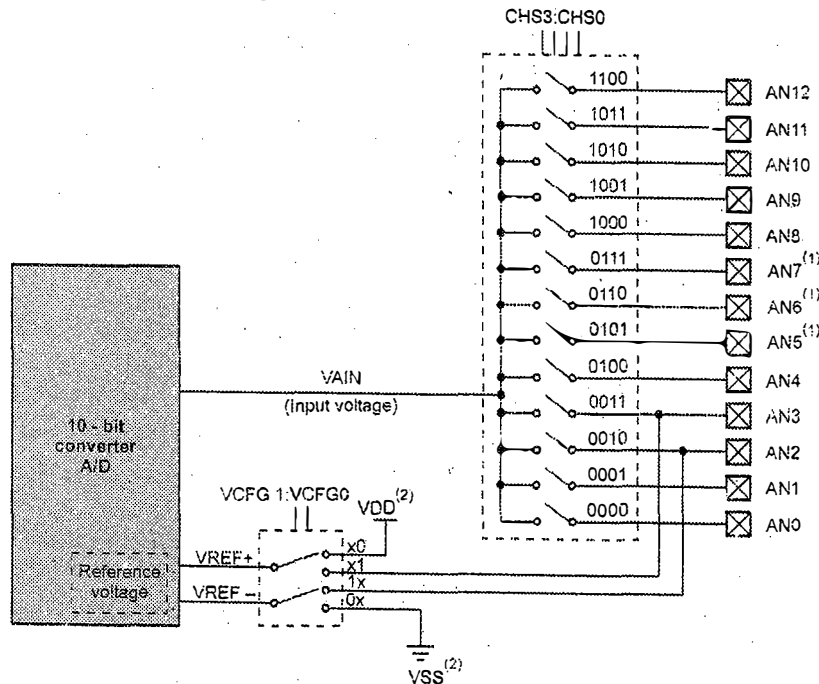

Fig. Q.25.1 ADC functional diagram
- The functional diagram of ADC in PIC is as shown in Fig. Q.25.1